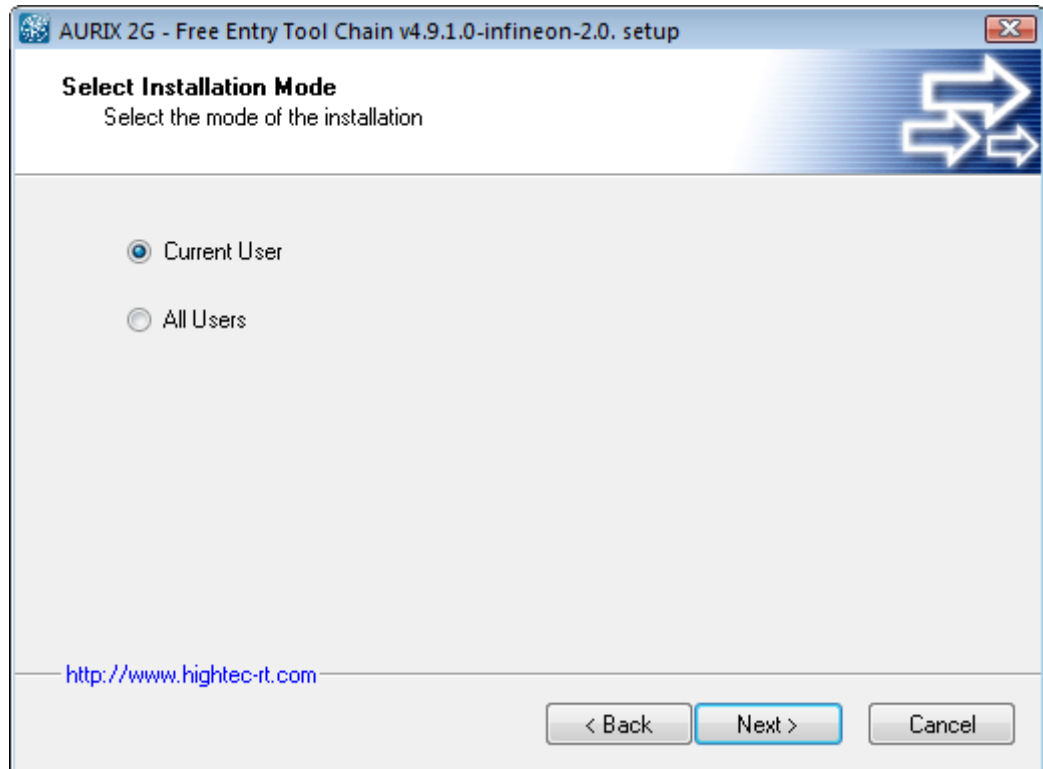

Figure 3 Free TriCore Entry Tool Chain Setup dialog
3. Select **Next** button. In the next dialog you can decide if the tool chain will be installed only for your profile or for all users of the computer (Figure 3)